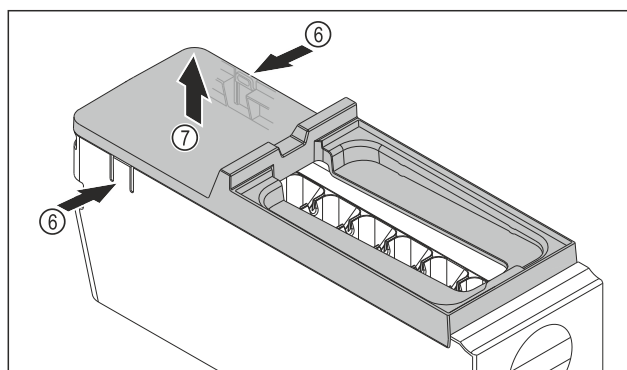

Fig. 84
- Removing the EasyTwist-Ice body cover: Push the tabs Fig. 84 (6) on both sides of the EasyTwist-Ice body with one hand.
- Use the other hand to remove the cover Fig. 84 (7) upwards.